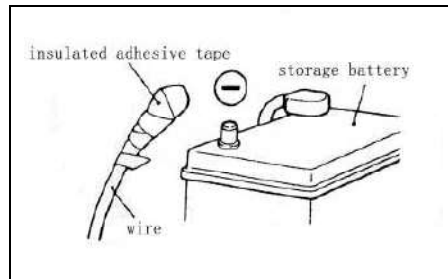

Fig 19-5
5. After disconnecting the negative(-) battery cable, wait 60 seconds at least before any service and insulate the disconnected cable with tape .The SRS retain enough voltage to deploy the air bags for a short time even after the disconnection of the battery. So ,serious injury may result by accidental air bag deployment if a work is done on the SRS just after the disconnection of the battery.(See fig 19-5)